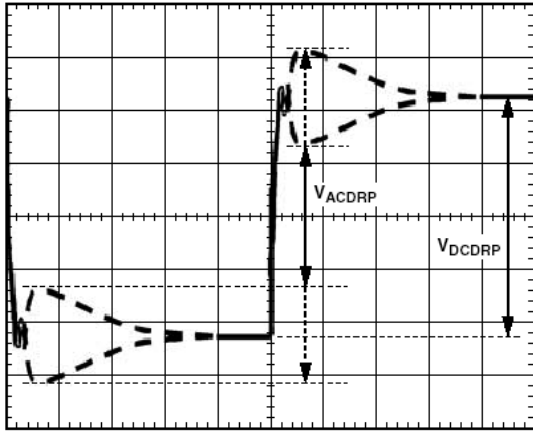

Figure 8. AC Loadline Waveform
15. You will see a waveform that looks something like Figure 8. Use the horizontal cursors to measure V_{ACDRP} and V_{DICDRP} as shown. **DO NOT MEASURE THE UNDERSHOOT OR OVERSHOOT THAT HAPPENS IMMEDIATELY AFTER THE STEP.**